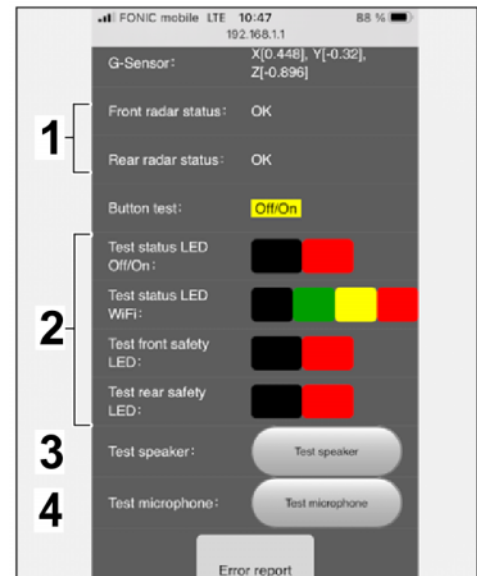

Figure 35
6.3 Display of radar status, test options for LED lights, loudspeaker and microphone (⇒ Figure 35)